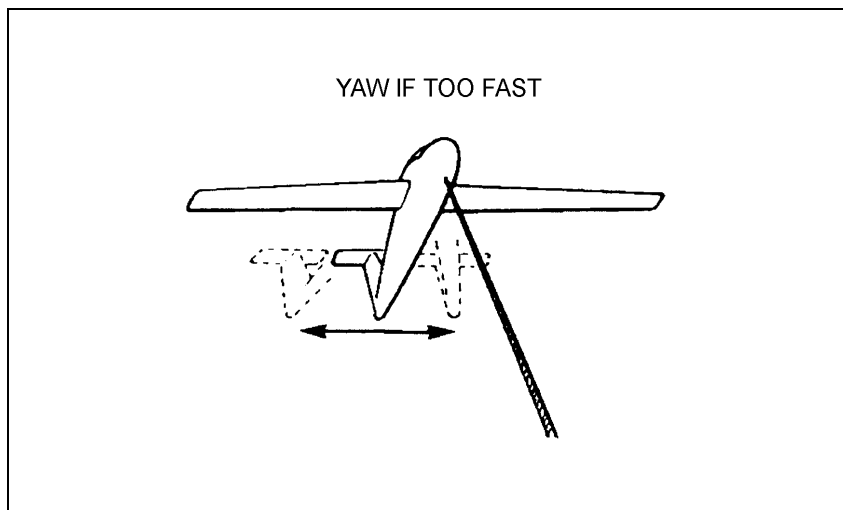

Figure 2-5-4. Too Fast Signal
19. In the event that a reduction in the climb speed is necessary, the glider pilot shall reduce the climb angle to prevent exceeding the placard speed, and yaw the glider from side to side to signal the winch operator to reduce power (see Figure 2-5-4).